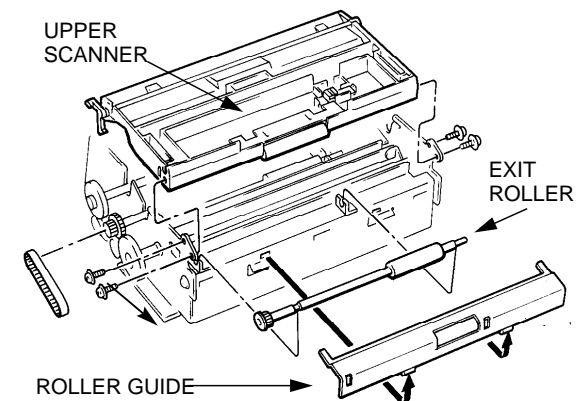

Figure 1. Exit Roller Assembly
6. Remove the roller guide (figure 1).
7. Remove the belt from the exit roller assembly (figure 1).
8. Remove the exit roller assembly (figure 1).